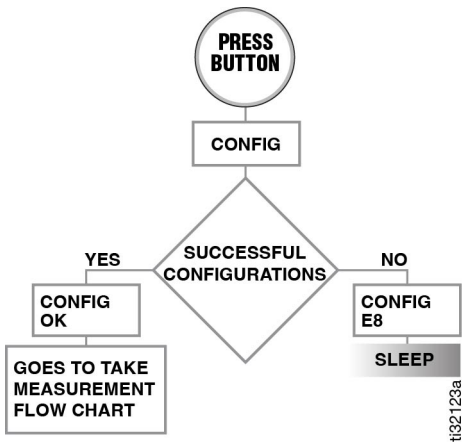

FIG. 4
1. Press the Display button (A) again to configure the TLM with a new profile.
2. The display reads CONFIG OK, as shown in FIG. 4, page 6, after the TLM is configured with the new profile.
If the TLM was not configured with a new profile by the Pulse software, the error message CONFIG E8 displays (Step 2, FIG. 4).